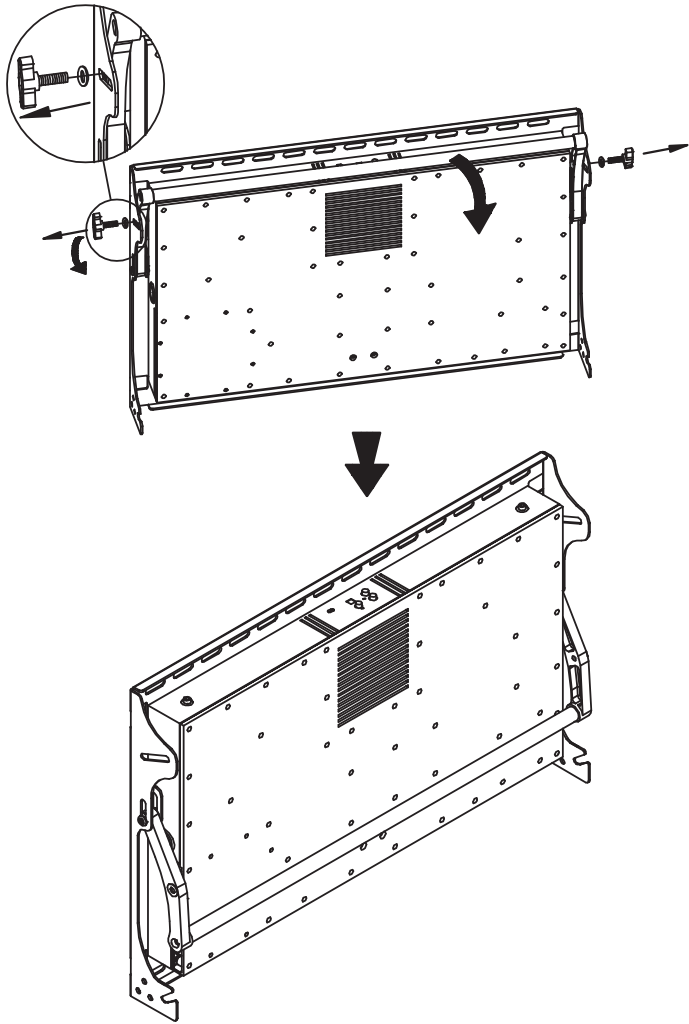

Figure 4 - Remove Handles
Remove the two handles (D) (Figure 4). Rotate the pole assembly downward to gain clear access to the top mounting holes.